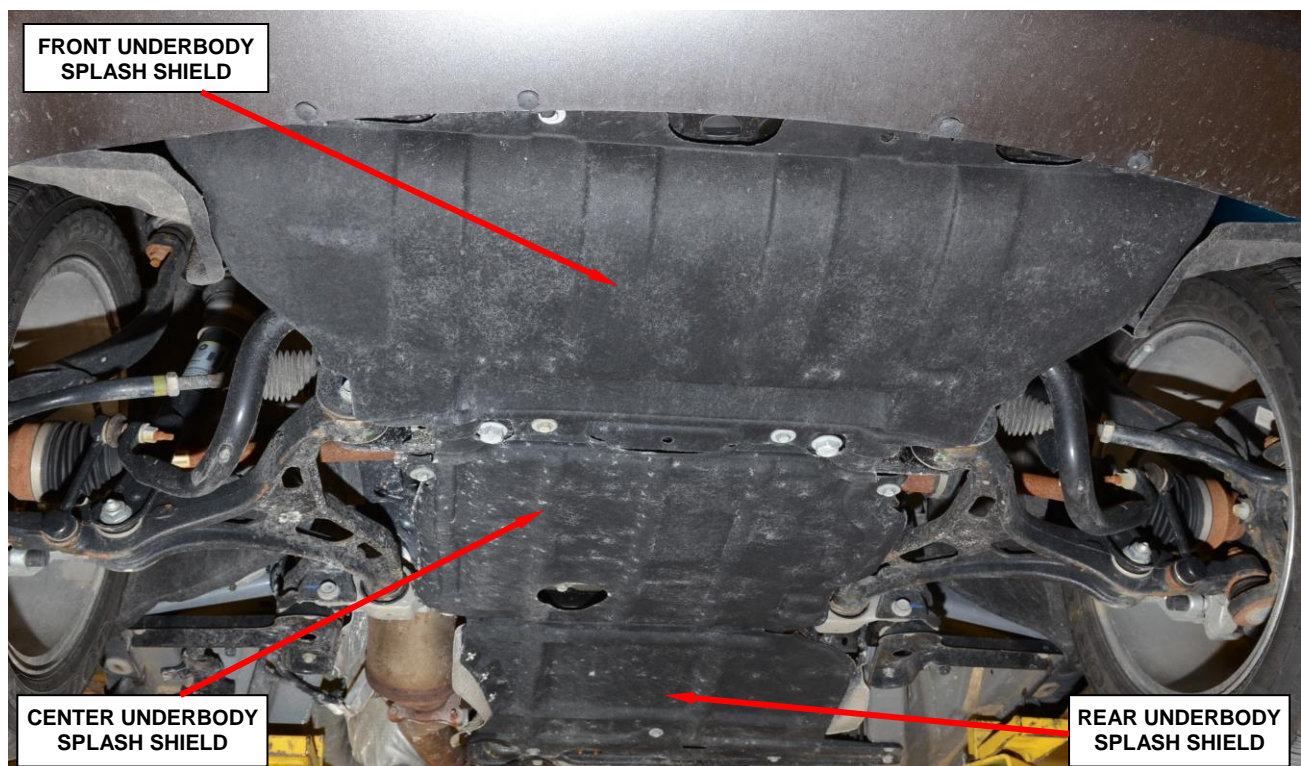

Figure 1 – Underbody Splash Shields
6. Remove and save the three underbody splash shields (Figure 1).